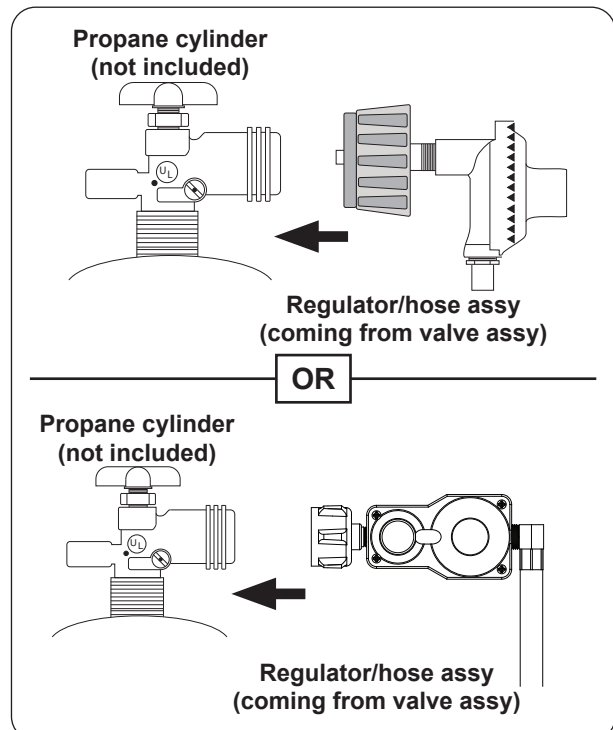

Fig. 38-2 Connecting hose assy to L.P. cylinder
2. Attach the regulator end of the hose assembly to a propane cylinder (not included) and tighten (see Fig. 38-2).